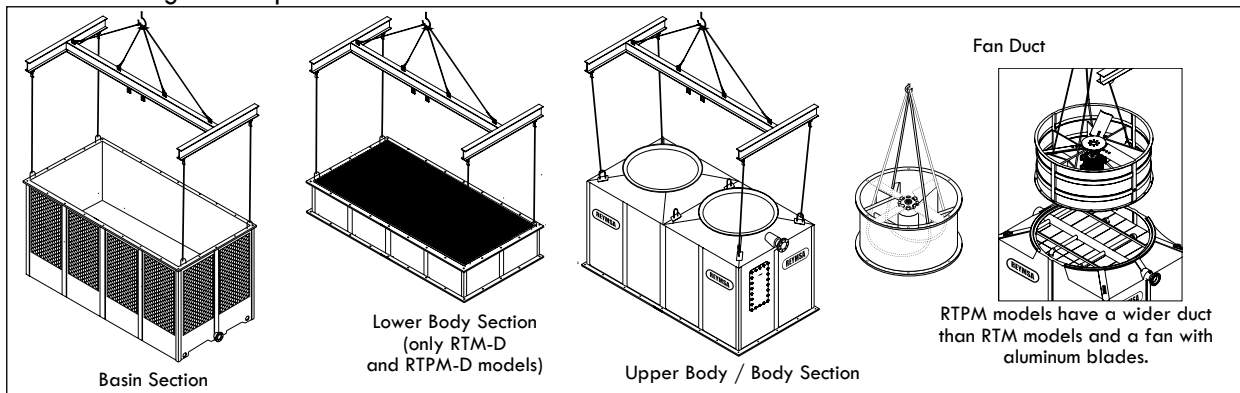

Figure A-55: Crane lifting for a modular tower (RTM or RTPM)
- B. After assuring the equipment is received in proper condition, proceed to unload it from the transportation vehicle, piece by piece, with a crane (using a spreader bar) or forklift of the appropriate capacity, see Figure A-55 for an example. If you unload with a forklift, use fork extensions of the proper pallet length according to the width of your model.
- C. For crane lifting, it's recommended to use a minimum lifting angle of 60° between the strap and the horizontal. Each section of the Tower has U-bolts for lifting. Place the straps through the U-bolts (as shown in Figure A-55) and use a spreader bar to avoid damage on the upper edge of the Tower. Don't balance until tensing the straps.